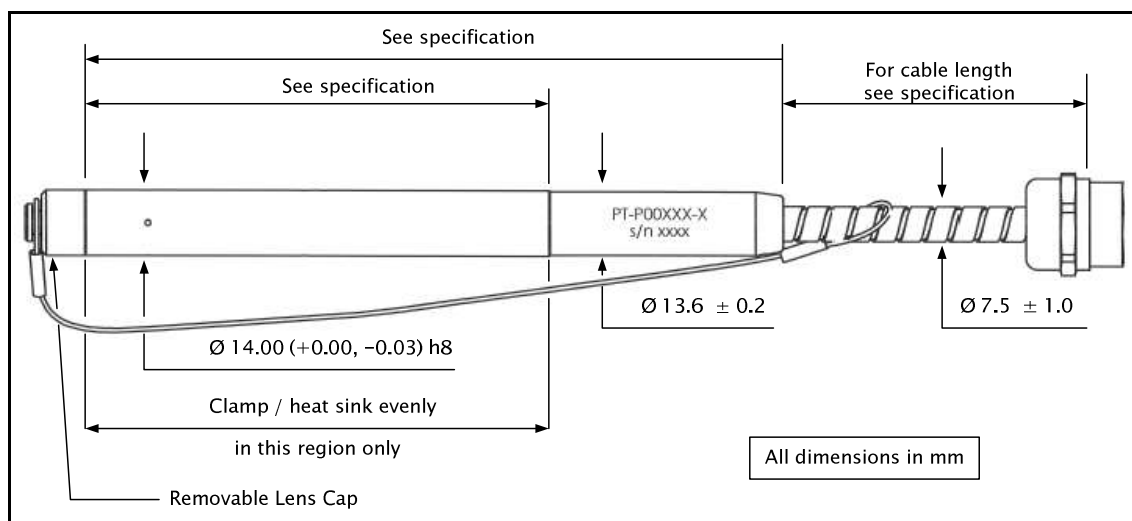

Figure 11.2.2: Outline Drawing – QCS Beam Delivery System
(1) Refer to table 3.1.1 for fibre type definitions
(2) Measured with respect to the reference surface Ø14mm defined in figure 11.2.2